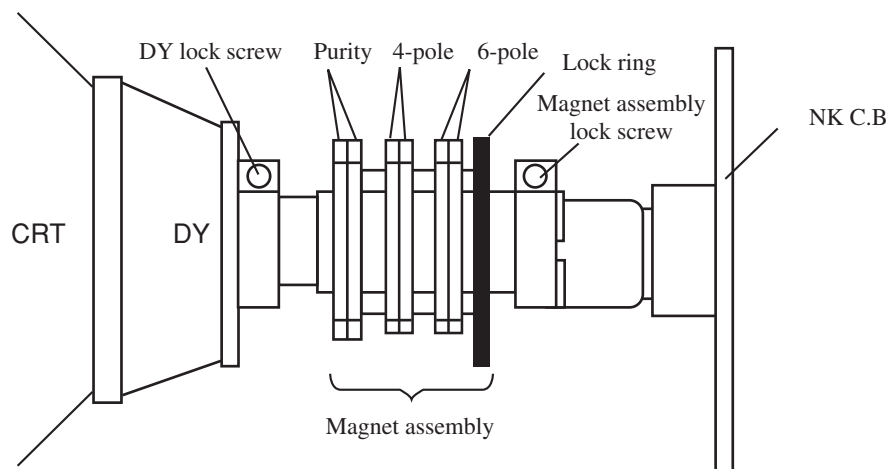

Fig 1-4
- (4) The composition of each magnet is as shown in Fig. 1-4.
Be careful not to loose the lock ring too much. If the magnet assembly has become shifted during adjustments, secure it to the position in Fig. 1-4.
- (4) After adjustments are completed, secure all magnets with the lock link. (Refer to Fig. 1-4)